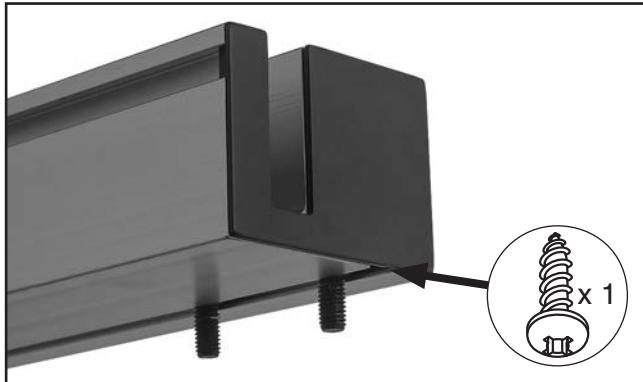

Figure 22. Left end cap re-installed on front fence rail.
- 12.** Re-install end cap and tap screw on fence rail (see **Figure 22**).